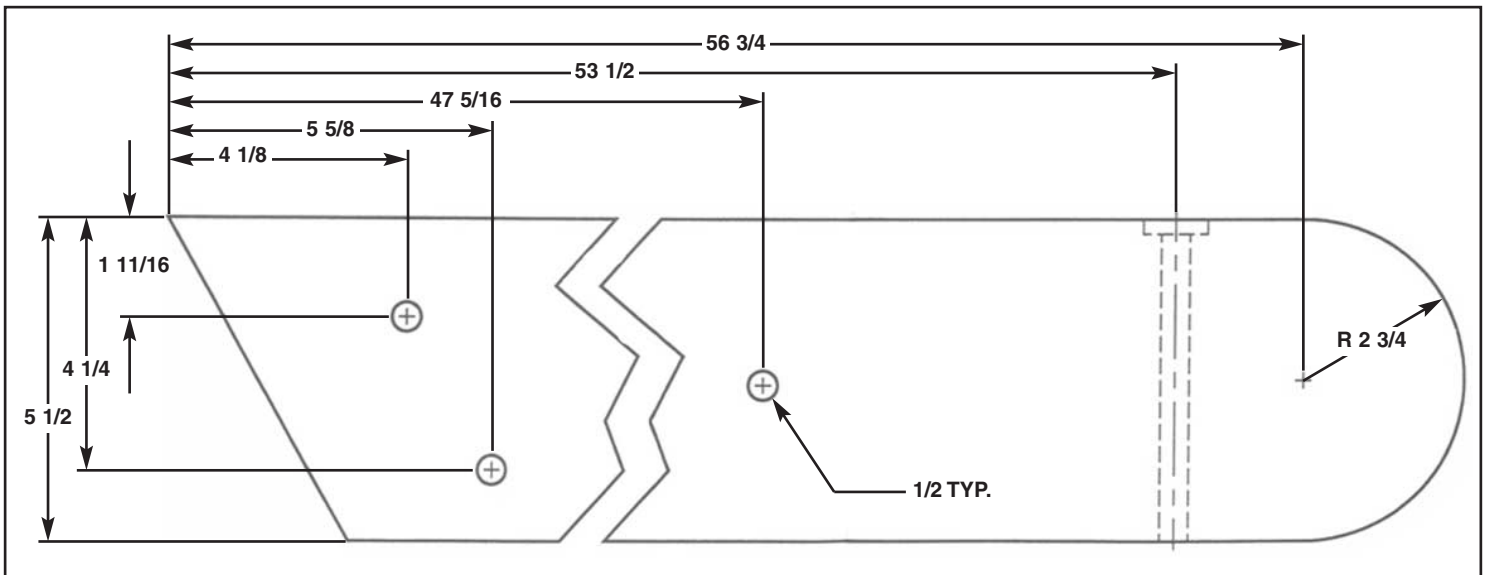

Figure 1
1. Cut all boards to the proper size. Refer to the cutting schedule and Figures 1 through 7.
3. Drill a $1\ 1/8$ " hole $1/4$ " deep on the top edge of board B. Drill a $1/2$ " hole through the rest of board B. See Figures 1 and 2. Note: The $1/2$ " hole must be parallel to the face of the board to ensure proper strength.